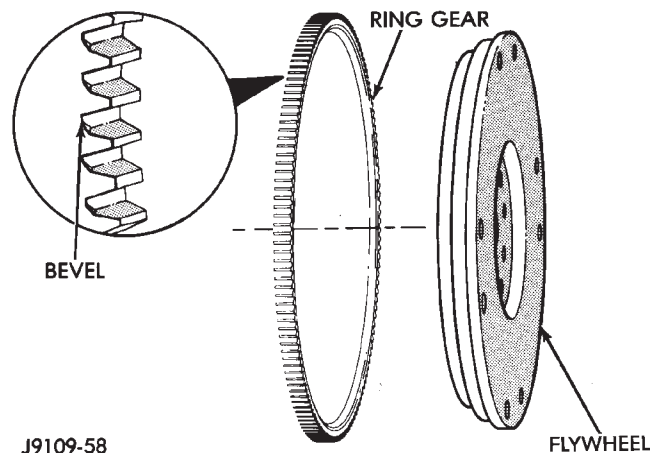

Fig. 98 Flywheel/Ring Gear Position
- (6) Heat the new ring for 20 minutes in an oven preheated to 127°C (250°F).
- (7) Install the gear. The gear must be installed so the bevel on the teeth is towards the crankshaft side of the flywheel (Fig. 98).